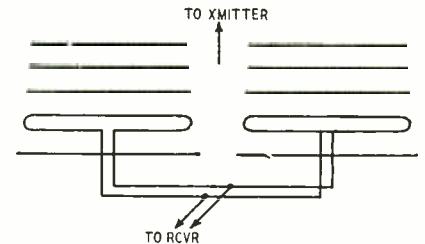

Fig. 2—Colinear antennas are used to greatly increase horizontal directivity.
3. If co-channel interference arrives from almost the same direction as the desired signal, the collinear arrangement of the Yagis can be used to sharpen the horizontal sensitivity pattern, as suggested in Fig. 2.